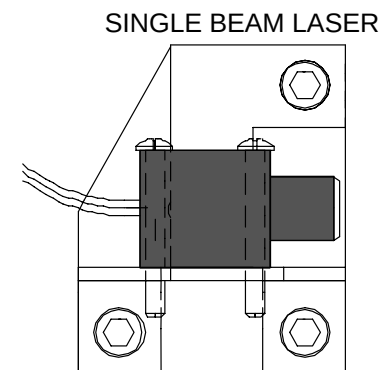

FIGURE 91 LASER ALIGNMENT SCREWS
6. Cover the 3 and 9 o'clock lasers (two lasers at 9 and 10 o'clock for AcQSim CT) openings over the laser opening with black electrical tape. Refer to Figure 91.
7. Adjust the 12 o'clock laser so the beam is aligned between detector channel **1799** and **1800** at the bottom of the gantry. To adjust the laser, you must loosen the allen head screw at the mounting bracket stud, then move the laser right or left as needed. Tighten after adjusting. Refer to Figure 91.
14. Disable the main drive. Adjust the 12:00 laser so the line falls on the line of all three cards. Figure 91 shows the the spring–mounted laser adjustment screws. Note that adjustment screws interact with each other.